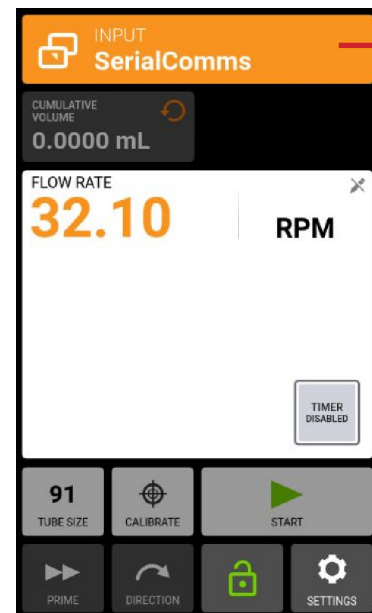

Figure 12: SerialComms Banner
- Selecting the orange **SerialComms Mode banner** provides quick access to SerialComm settings, simplifying navigation for the user (see Figure 12)